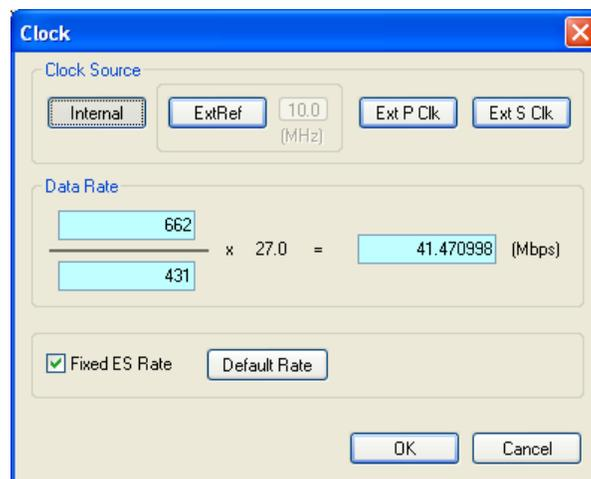

Figure 2–2: Clock settings dialog box
5. In the Play menu, click Clock... to open the Clock dialog box shown in Figure 2–2.
- b. Verify that the Data Rate is set to 41.470998 Mbps as shown in Figure 2–2.